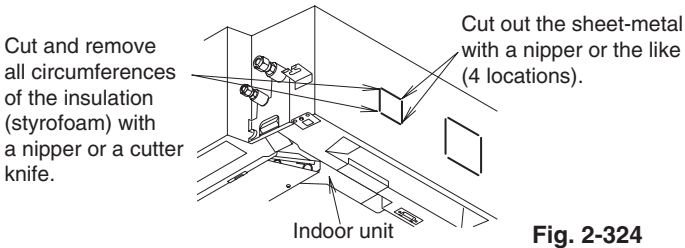

Fig. 2-324
- (1) Cut and remove the sheet-metal together with an insulation (styrofoam) with a nipper or a cutter knife paying attention to the incision as a marker on the indoor unit. (Fig. 2-324)